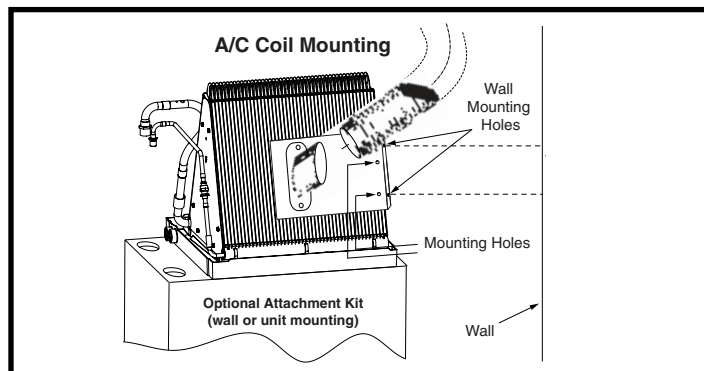

Figure 2. Downflow Electric Furnace with A/C
NOTE: An optional VentilAire™ attachment kit (P/N 919328) may be purchased to attach the plastic inlet fitting to the coil or wall in Heat/Cool and Heat only (no coil) applications. This bulk kit is supplied with 24 brackets and fasteners. The plastic inlet fitting snaps into the bracket opening without screws. See Figure 2.
- **Electric Furnace with Nortek A/C coil** - Align and fasten the VentilAire™ attachment bracket with the holes of the coil end-plate flange. See Figure 2.
- **Electric Furnace with non-Nortek A/C coil** - When using other brands of coils, the installer has the option to attach the bracket to the wall of the furnace cavity. Fastening must penetrate into a framing member or sheetrock anchors. See Figure 2.